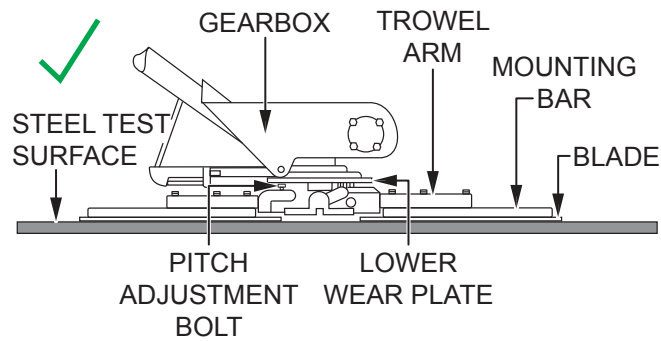

Figure 60. Blades Pitched Flat (Correct)
2. Pitch the blades as flat as possible (Figure 60). The pitch adjustment bolts should barely contact (0.10 inch maximum clearance) the lower wear plate. All adjustment bolts should be spaced the same distance from the lower wear plate. If any one of the bolts does not make contact, adjustment is necessary.